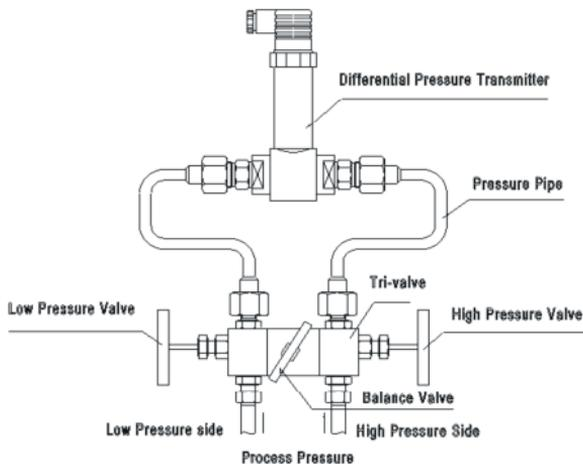

Fig. 3
a) The recommended method is to see Fig. 3.